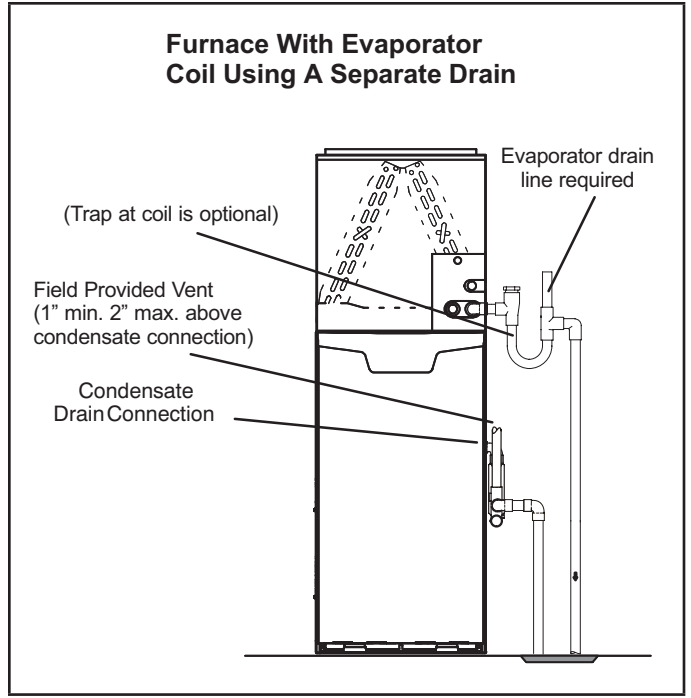
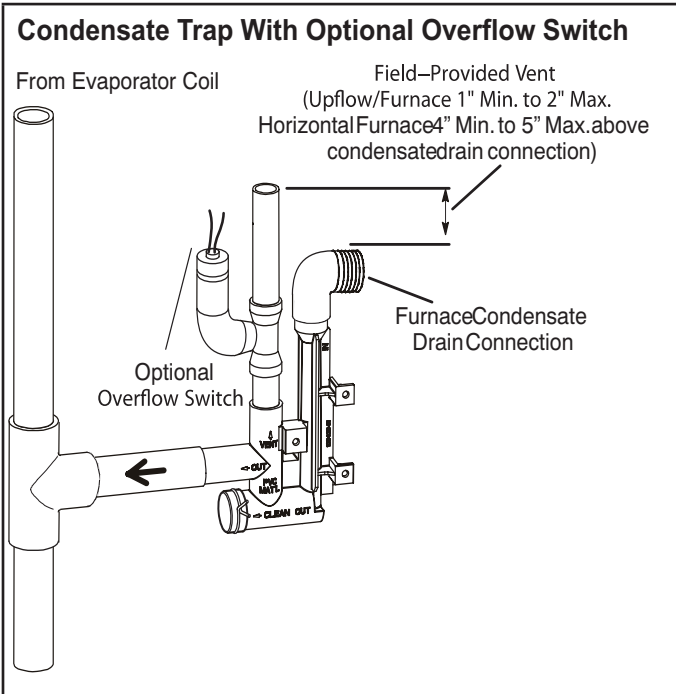
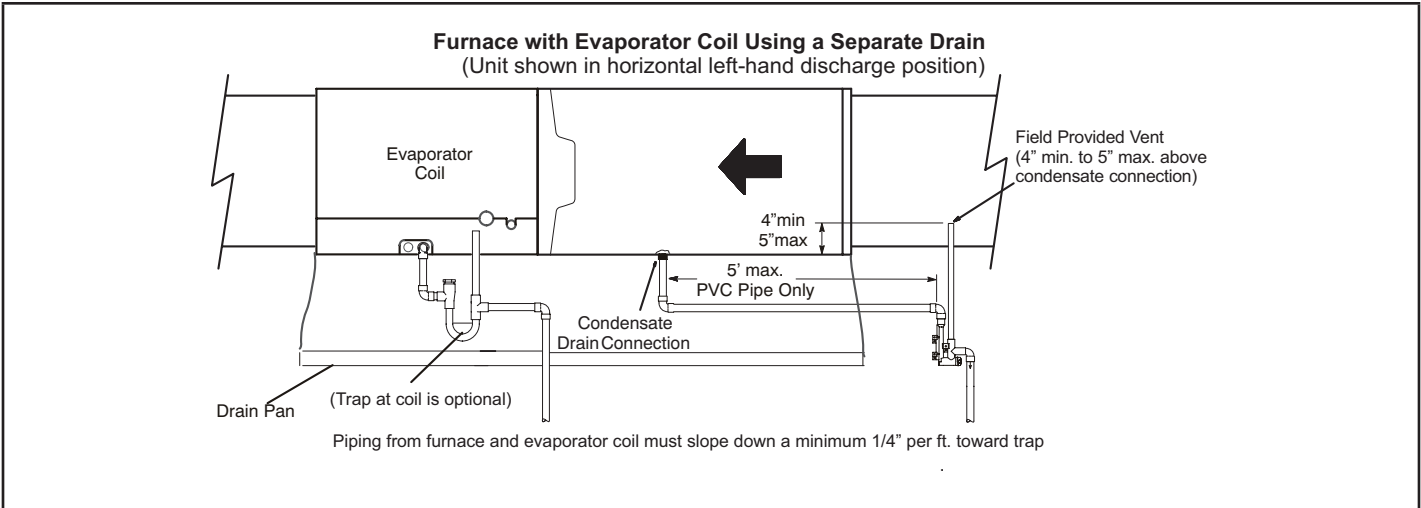
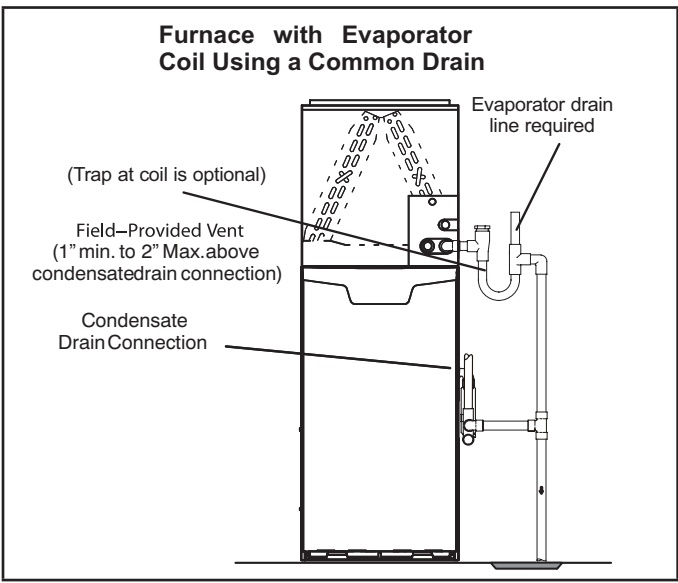

FIGURE 43
FIGURE 42
FIGURE 44
FIGURE 45
- 5 - FIGURE 43 and FIGURE 44 show the furnace and evaporator coil using a separate drain. If necessary the condensate line from the furnace and evaporator coil can drain together. See FIGURE 42, FIGURE 45 and FIGURE 46. *Upflow furnace (FIGURE 45)* - In upflow furnace applications the field provided vent must be a minimum 1" to a maximum 2" length above the condensate drain outlet connection. Any length above 2" may result in a flooded heat exchanger if the combined primary drain line were to become restricted. *Horizontal furnace (FIGURE 46)* - In horizontal furnace applications the field provided vent must be a minimum 4" to a maximum 5" length above the condensate drain outlet connection. Any length above 5" may result in a flooded heat exchanger if the combined primary drain line were to become restricted.